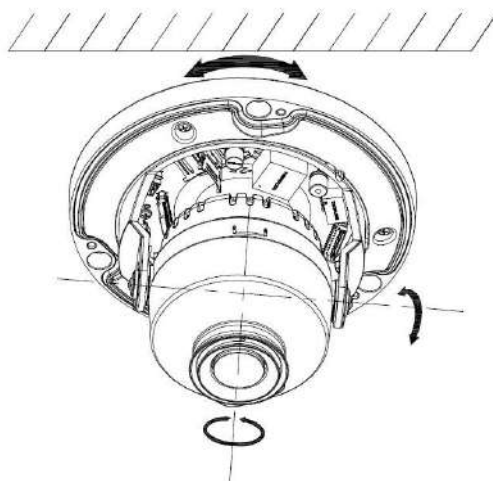
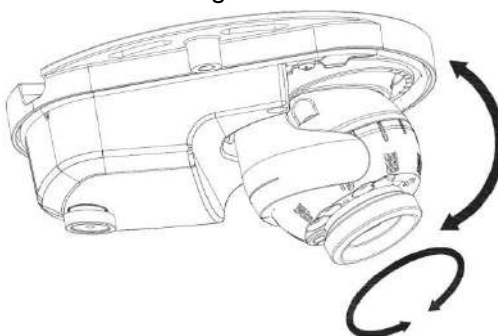

Figure 3-3
Figure 3-4
- Step 1** Find the mounting template sticker from the accessory pack and stick it to the mounting surface①.
- Step 2** Drill screw holes (and the cable outlet hole if it needs to go through the mounting surface) on the mounting surface as indicated on the mounting template, then insert expansion bolts② from the accessory pack in the screw holes.
- Step 3** Loosen the locking screws⑤ on the dome⑥ with the supplied wrench⑦ and take the dome⑥ off.
- Step 4** Adjust the location of the pedestal③ according to cable outlet requirement (top out or side out), then pull the cable out through mounting surface or the side cable tray. Align the screw holes on the pedestal③ to those on the mounting surface.
- For model A and model B, put in and fasten the supplied self-tapping screws④ to attach the device to the mounting surface.
- For model C, put the screw covers⑧ in the screw holes on the pedestal③, then put the supplied self-tapping screws④ through the screw covers⑧ and fasten them to attach the device to the mounting surface.
- Step 6** Connect the camera to power source and the XVR device, and the live view screen will be displayed. Aim the lens to the ideal angle and adjust the focus until you get clear image. See Figure 3-3 or Figure 3-4.